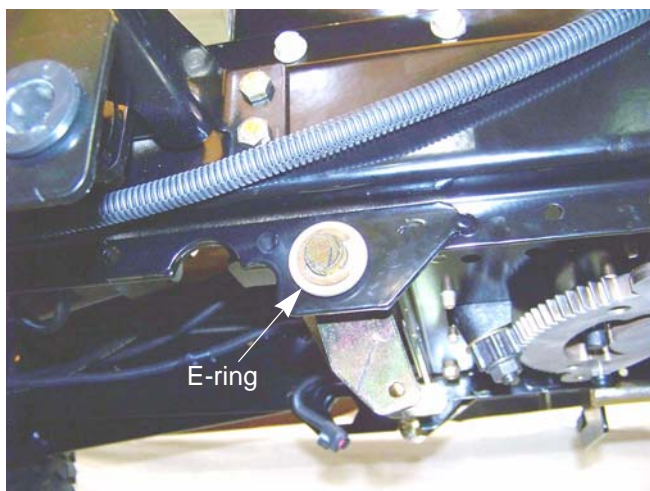

Figure 3.12
6. Remove the E-ring and washer(s) from the right side of the brake shaft. See Figure 3.12.